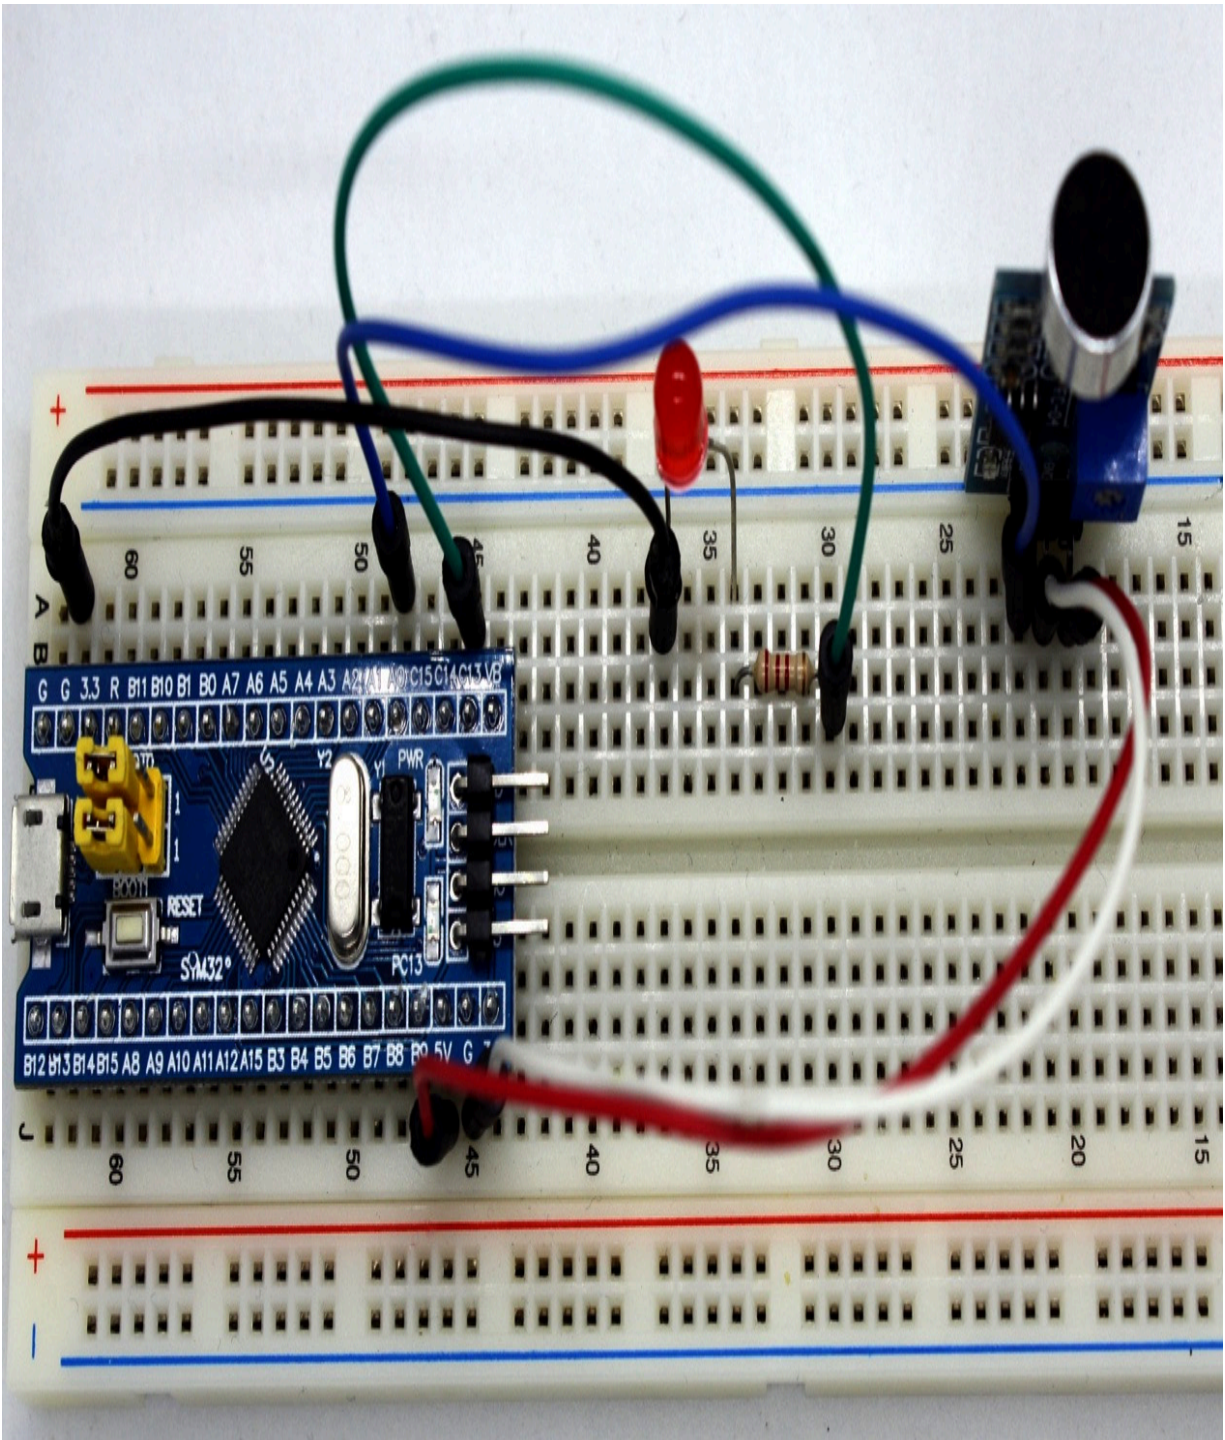

Figure 7.6 – LED setup
4. To configure the LED, connect the cathode of the LED to a **GND** pin of the Blue Pill and the anode to pin **13** of the Blue Pill. The resistor must be between these two as this is a digital output pin (see *Figure 7.6*):